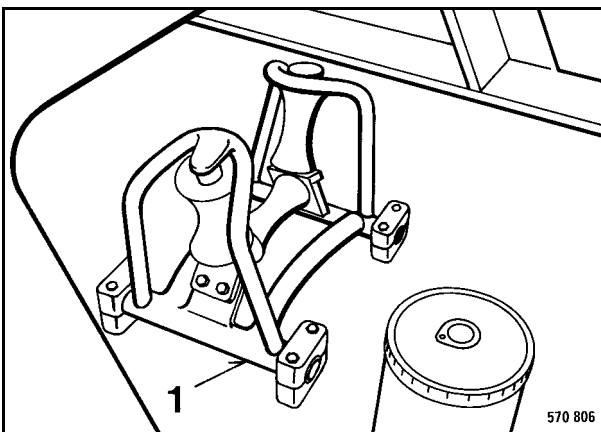

Fig. 13
24. Disassemble roller guide 1 (Fig. 13) from the tank